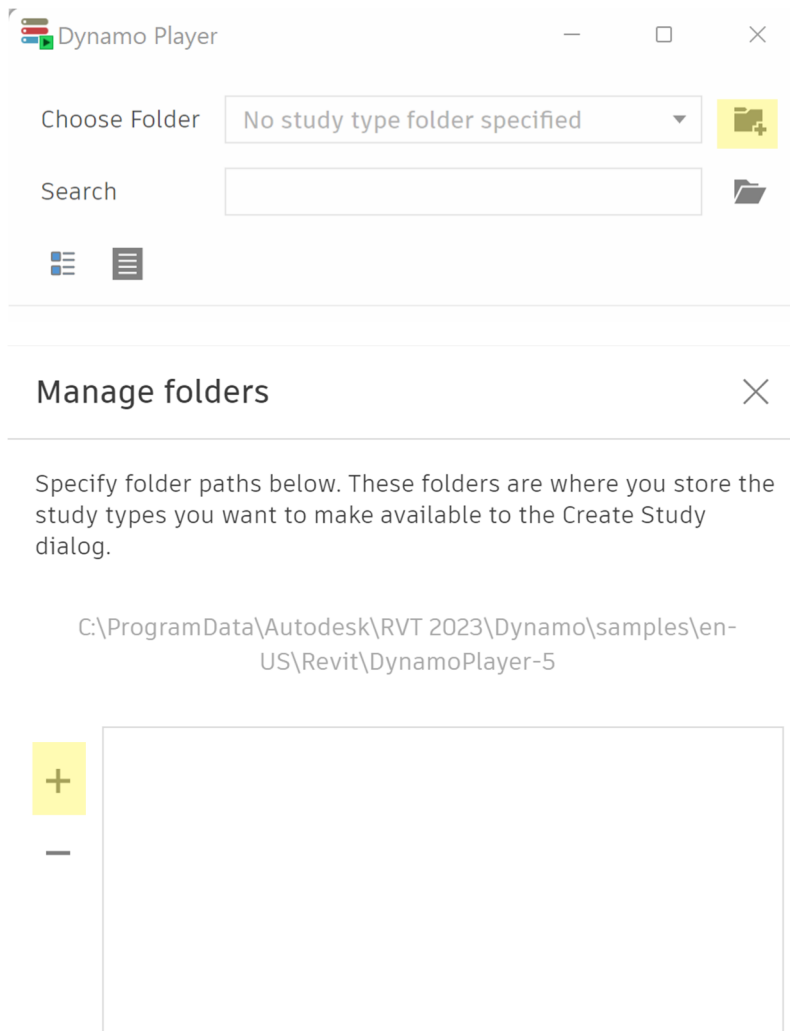

Figure 4-2. Navigate to the Connection Mapping Tool
2. An alternative way to access the family is by selecting the **Structure** ribbon and the **Component** icon. Select **Place a Component** and locate the **DuraFuse Connection** option from the drop-down menu that appears in the Properties menu (see Figure 4-2).